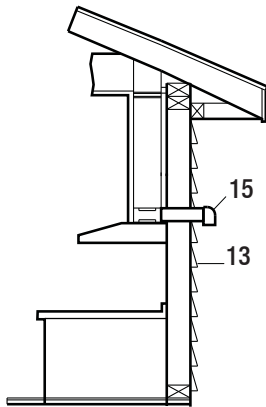
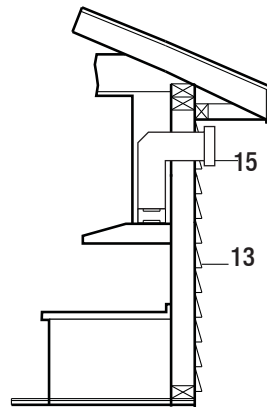
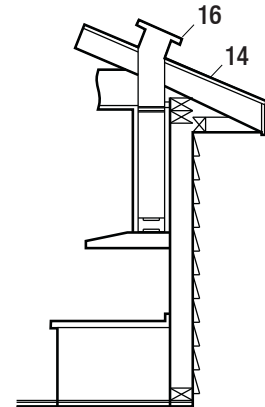
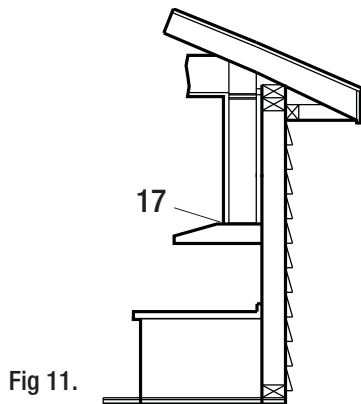

Fig.8
Fig. 9
Fig. 10
Fig 11.
- Your venting system must vent to the outdoors either horizontally through the back wall (13) or vertically through the roof (14) (refer to Fig. 8/ Fig. 9/ Fig. 10). For interior venting (the air does not vent outdoors), see Fig. 11.
For inside venting system (air does not exhaust to outdoors) (Fig. 8):